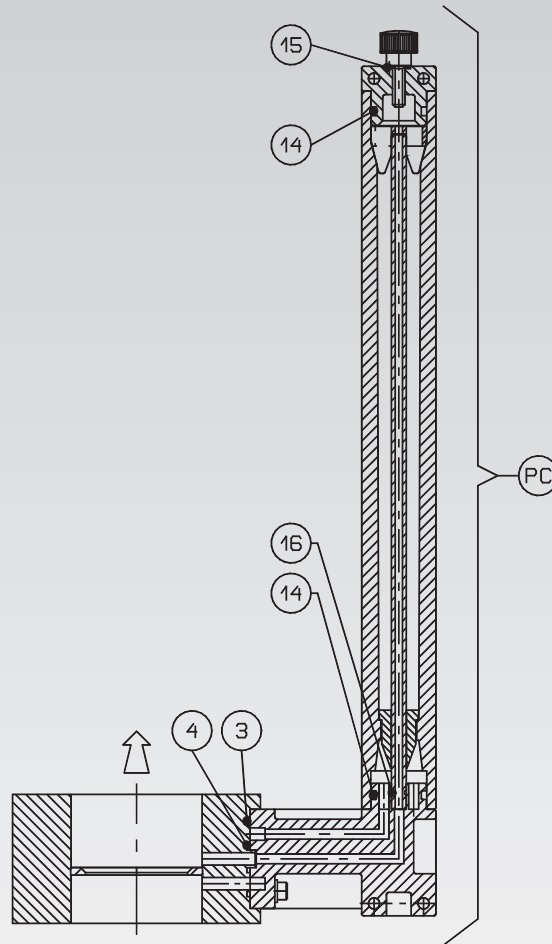

Figure 2
8. Recommended Spare Parts (Fig. 2)